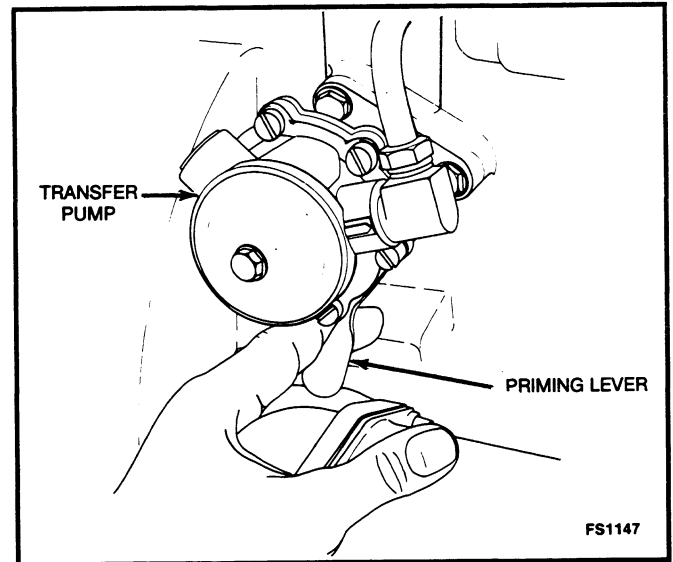

FIGURE 8-3. FUEL TRANSFER PUMP
3. Actuate the priming level (Figure 8-3) on the side of the transfer pump until fuel flows from the fitting.